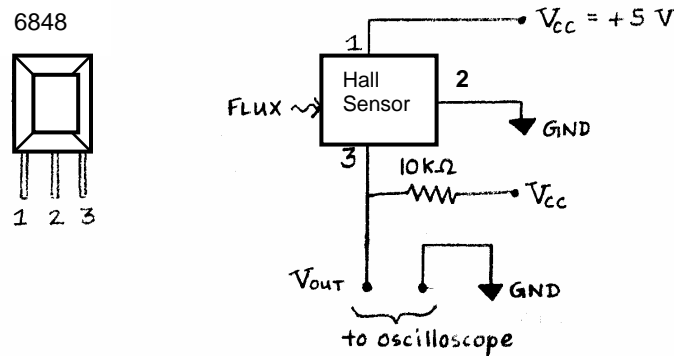

Figure 3. Hall-Effect sensor circuit diagram.
1. Build the analog circuit shown in Figure 3 on an electronic breadboard. Remember to use red wire for positive power connections and black wire for ground connections. Provide power ($V_{CC} = 5$ volts) and ground (GND) to your circuit board using the “5 V FIXED 3 A” output from your Tektronix PS280 DC Power Supply. (Use the provided banana connectors.)